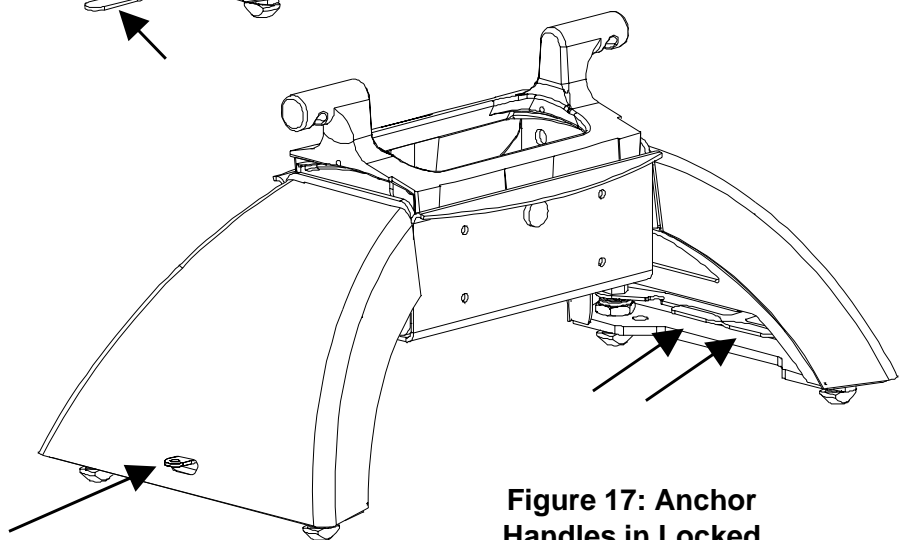

Figure 17: Anchor Handles in Locked Position (overlapped)
3. Rotate (4) handles into locked position (with locking holes through base arch shell) and overlapped on each side (Figure 17).
3. Remove lynch pin / lock from the overlapping handle holes on each side of the hitch (Figure 17). Store lynch pins.